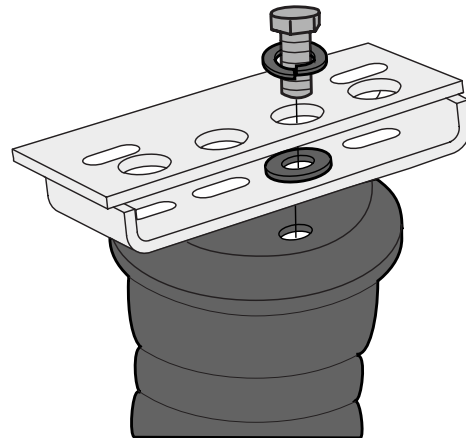

Fig. 5
2. Attach the upper brackets (C) to the air springs with two 3/8-24x7/8" hex head bolts (I), lock washers (S), and flat washers (M). Leave loose at this time (Fig. 5).